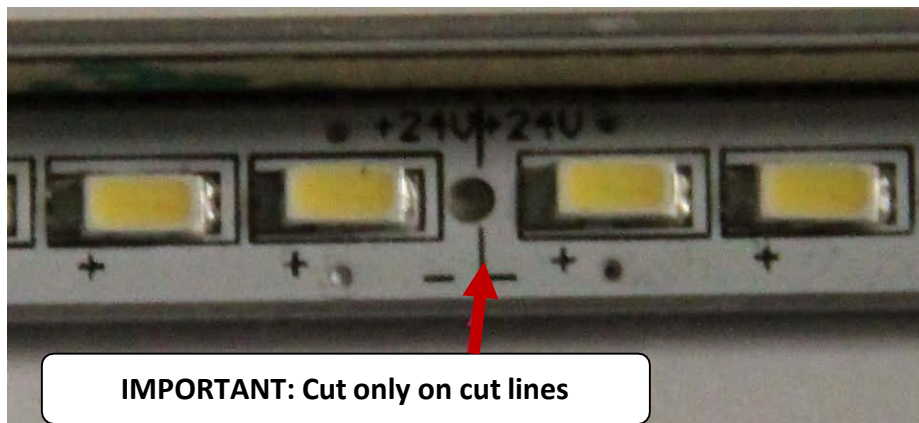

Figure 7
3. Cut and assemble the light bars to proper size (**only cut on cut marks, see figure 7**). Make sure the electrical plug-end is at extreme left or right as ordered so that the plug-end can get to an electrical connection (electrician might be required).